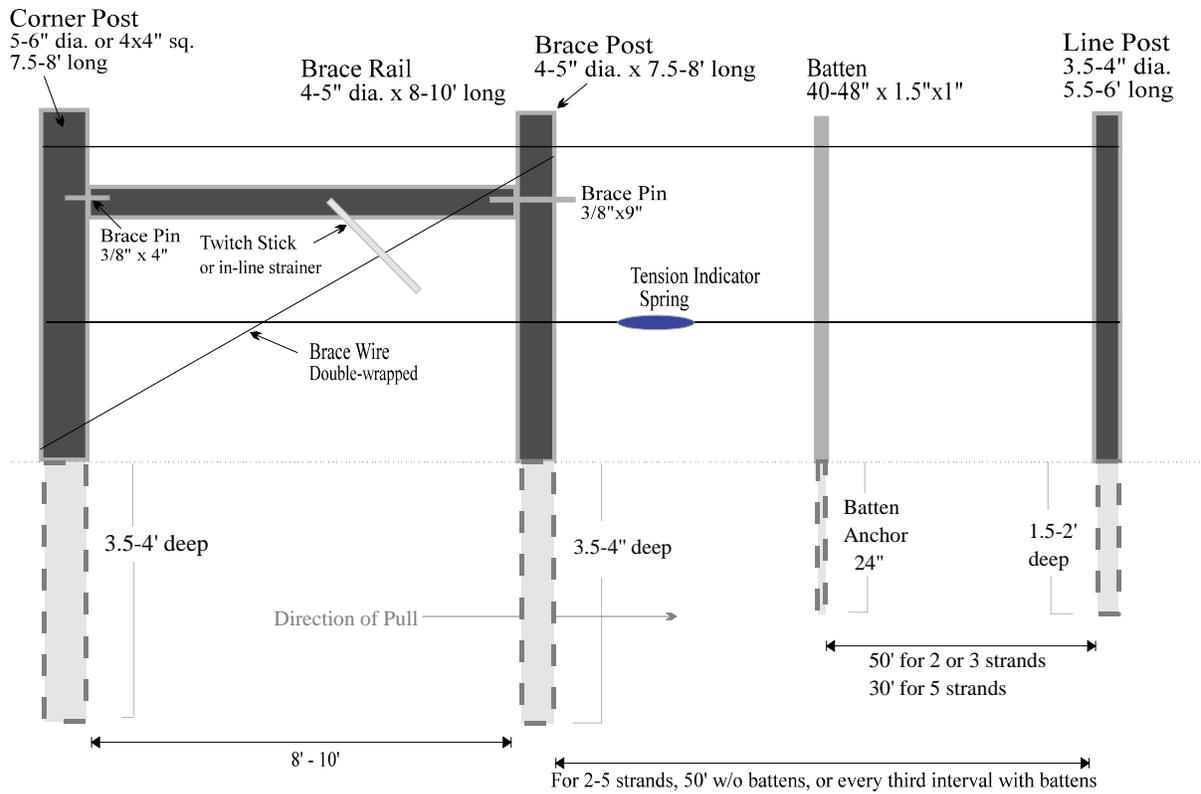

Figure 1. Single Brace Assembly required for gates, ends and corners with 5 or less strands of wire.
- Single brace assembly required for gates, ends, and corners with 3-5 strands (*see Figure 1*)